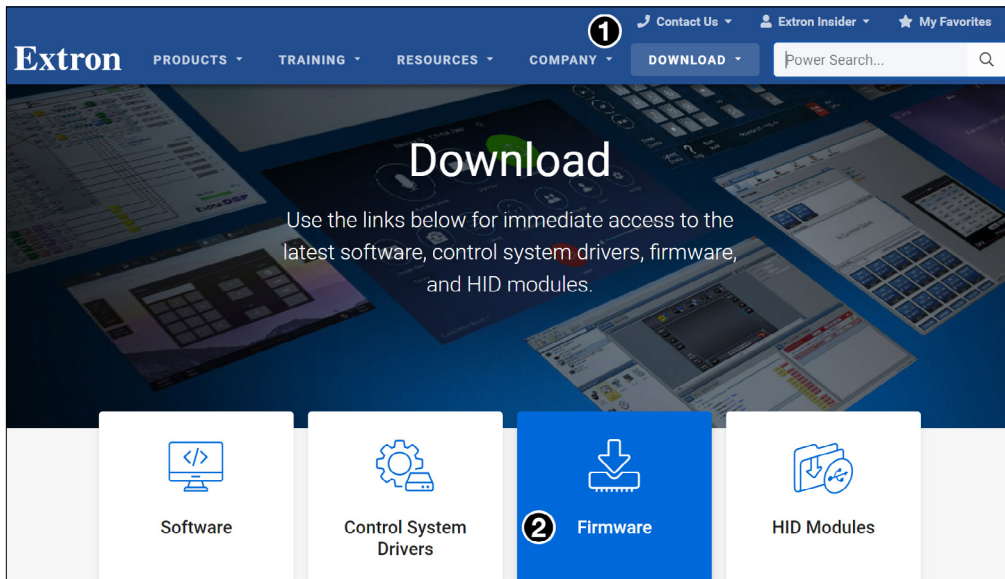

Figure 38. Firmware Download Center
1. Open the Extron website and select the **DOWNLOAD** tab (see figure 38, ❶).
2. Click the **Firmware** (❷) option at the bottom of the page.